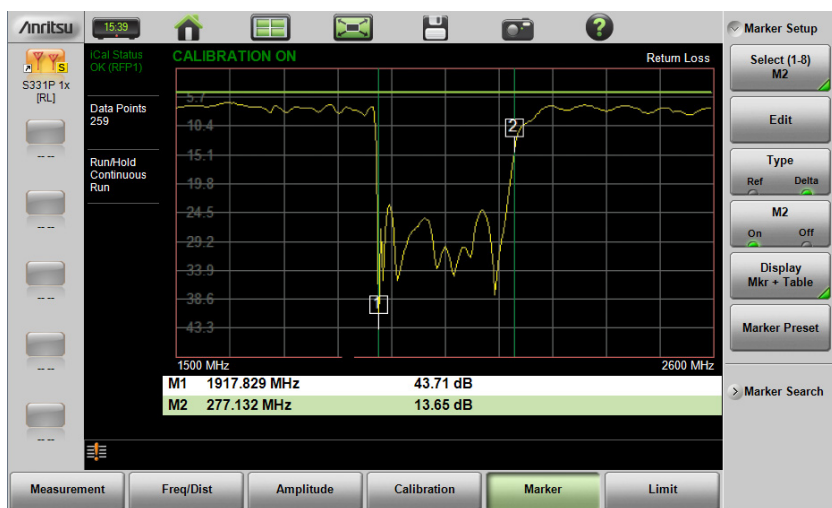

Figure 3-29. Delta Marker 2 and Marker Table
4. Markers 2 through 8 can be set as deltas to a reference marker. Use the **Type** key to set the marker type as **Reference** or **Delta** marker. Figure 3-29 on page 3-37 illustrates using a delta marker to estimate the passband of a filter.